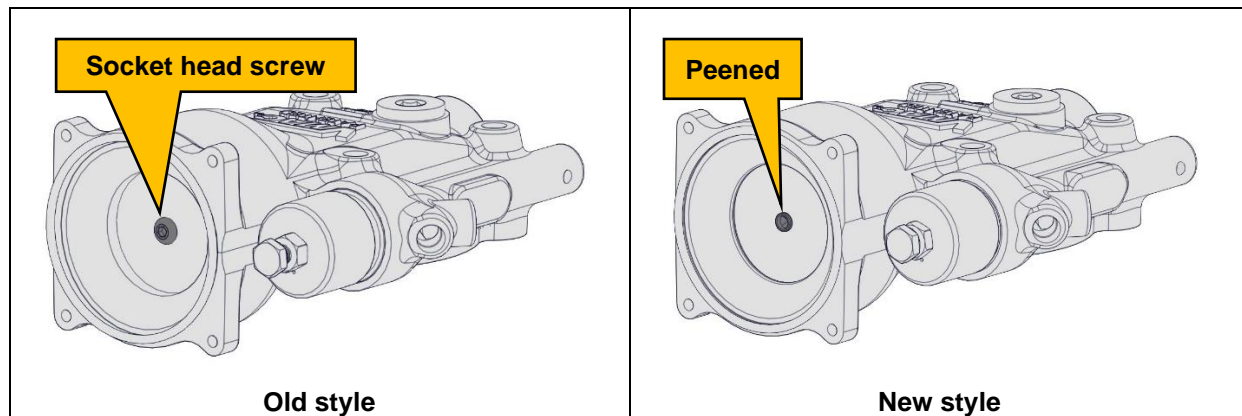

Figure 1
- Inspect the poppet screw to ensure it is tight. (Old style inlet only - Figure 1)